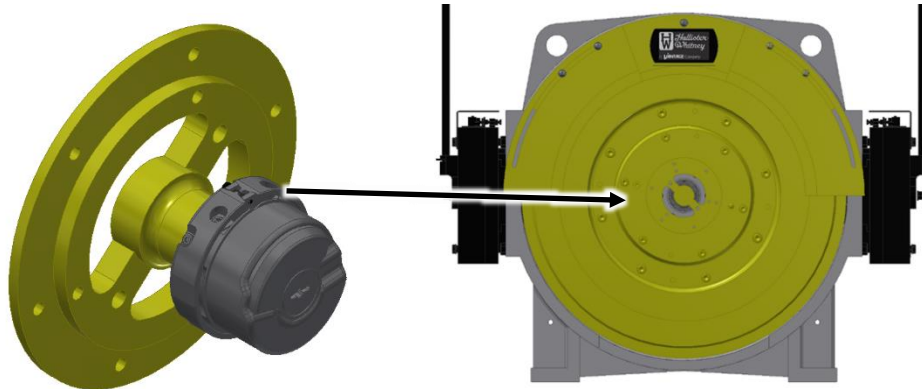

Figure 34
6. Replace Cover and attached Encoder. See Figure 34.